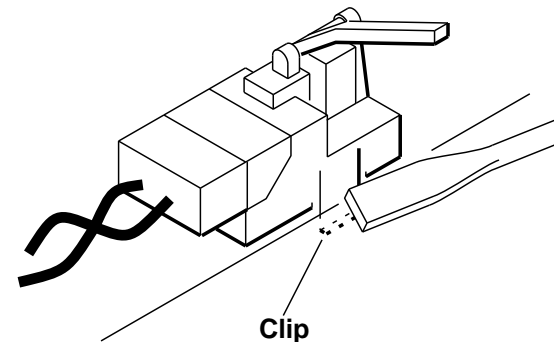

Figure 13. Sensor removal
- e. Using a small screwdriver, gently push on clip (Figure 13) to release sensor.